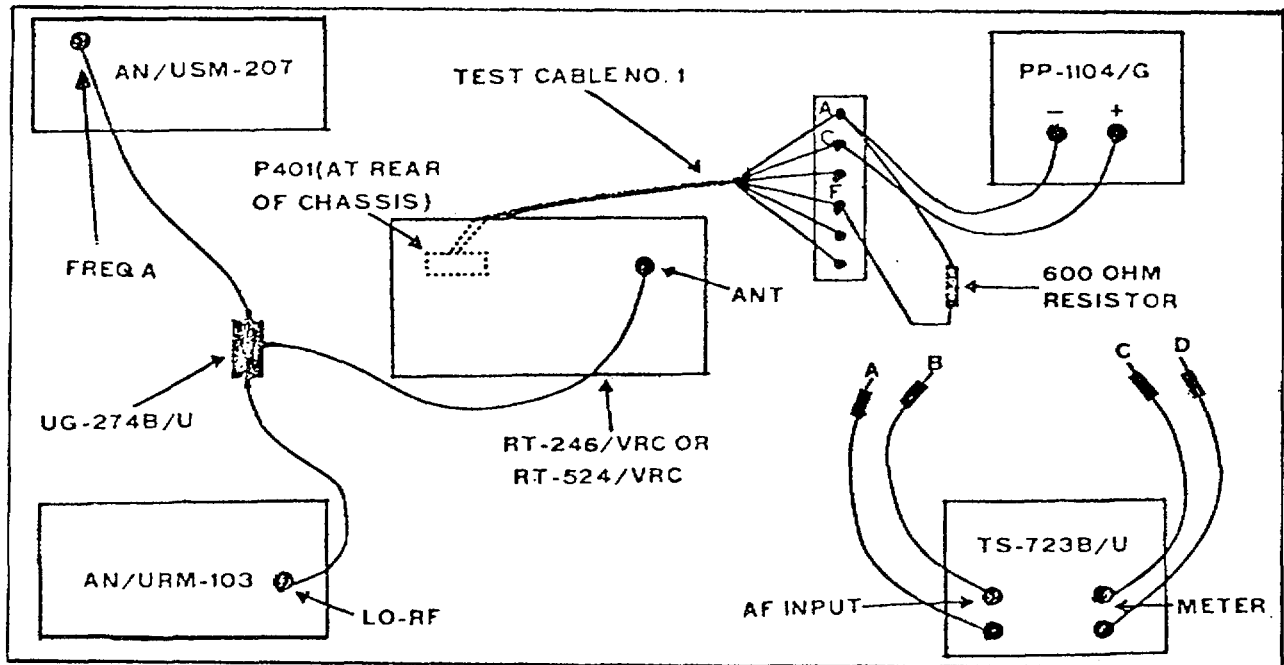

Figure B-5. Audio Output and Distortion.
4	<p>Audio output and distortion</p> <p>(a) Connect the equipment in accordance with figure B-5.</p> <p>(b) Energize all the equipment and allow for a 5 minute warm-up before proceeding.</p> <p>(c) On AN/USM-207, set the controls as follows:</p> <p>(1) Display Control. Set for desired display time.</p> <p>(2) Sensitivity. 100 V</p> <p>(3) Gate Time. (sec--):106</p> <p>(4) Function. Freq</p> <p>(d) On AN/URM-103, set the controls as follows:</p> <p>(1) Band Switch. D</p> <p>(2) RF Tuning. 60 MHz</p> <p>(3) Deviation Range. 40 kHz</p> <p>(4) Function. 1000 Hz</p>